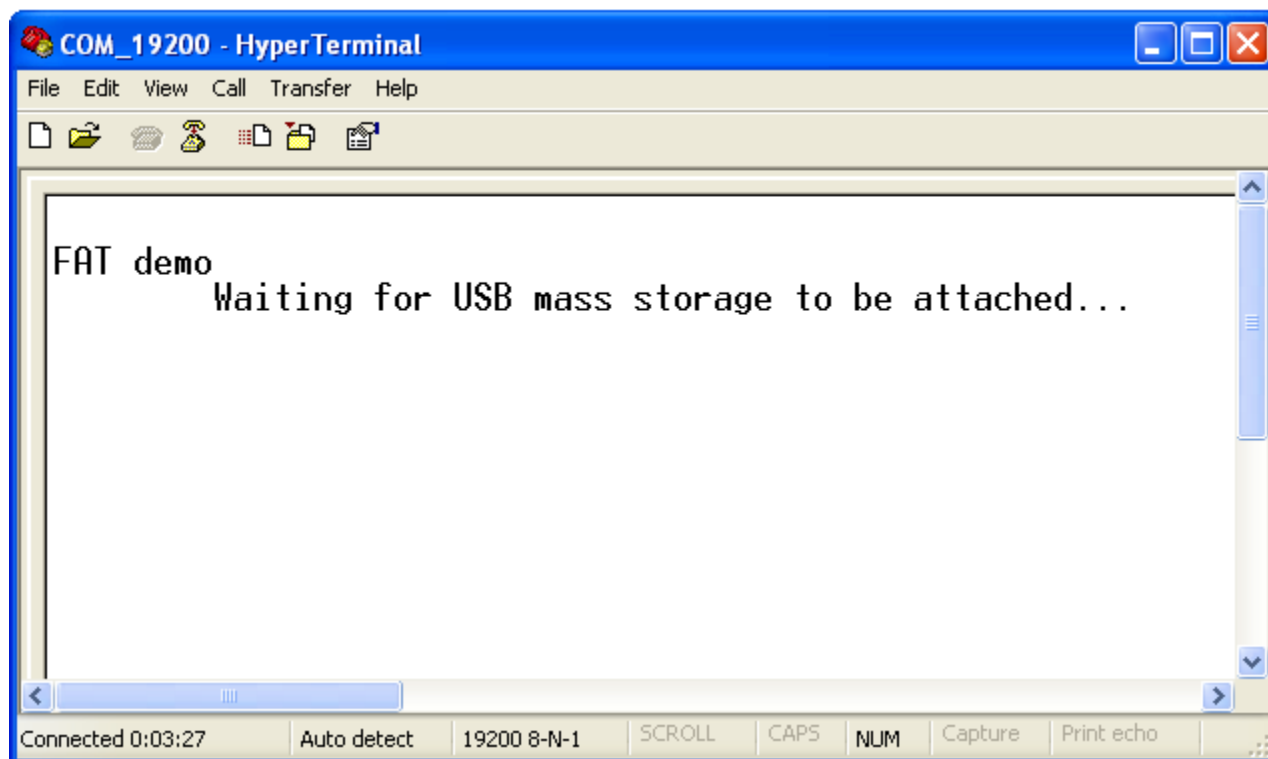

Figure F-1. The USB Host is waiting the mass storage device attachment event
2. After the image has been loaded successfully, the HyperTerminal appears as shown in Figure F-1.